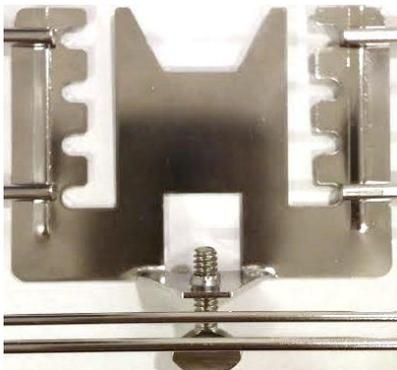

Fig. 1
Step 1: For all rod sizes, insert the included thumb screws through each threaded acceptor on the bottom of the basket as shown in Fig. 1.